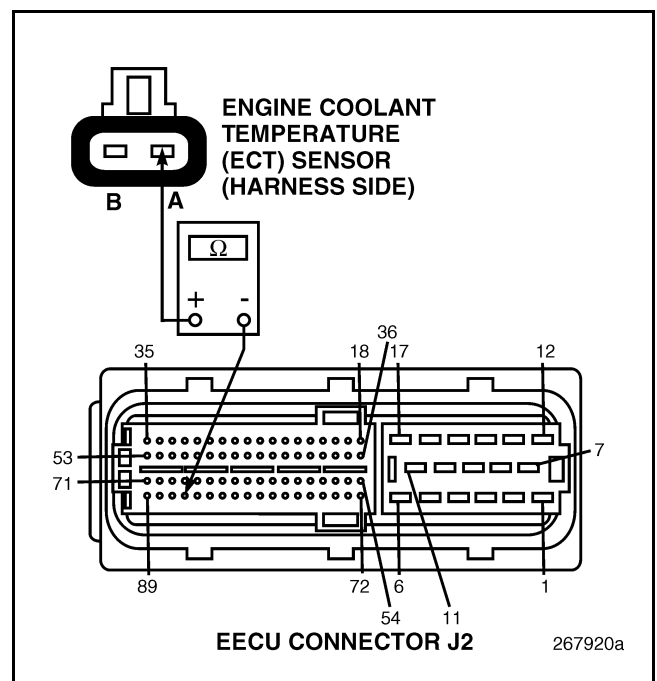

Figure 159
4. Check for continuity between pin A of the ECT Sensor harness connector and EECU harness connector J2 pin 86 (see Figure 159).